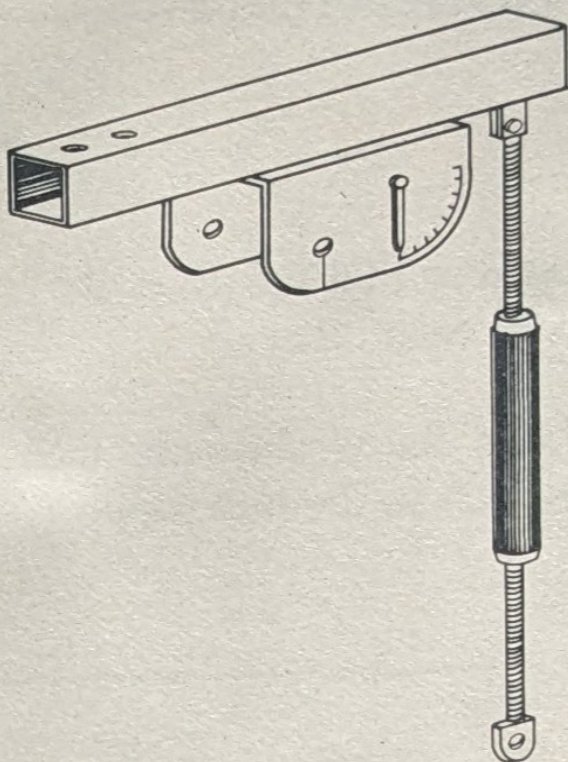

Fig. 5 Elevation Tube
5. One(1) Elevation Tube with Turn Buckle. (Fig. 5)